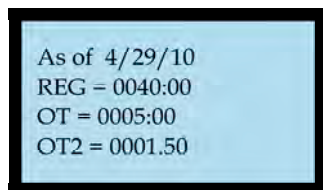

Figure 1-9 Hours Worked for Pay Period
3. Upon verification, the **Green LED** will momentarily stay on, the screen will briefly display your Name, User ID, and the confirmation "Verified." (see figure) with the voice prompt "Thank you", followed by the momentary display of your hours worked (see **Figure 1-9**) for the active pay period.